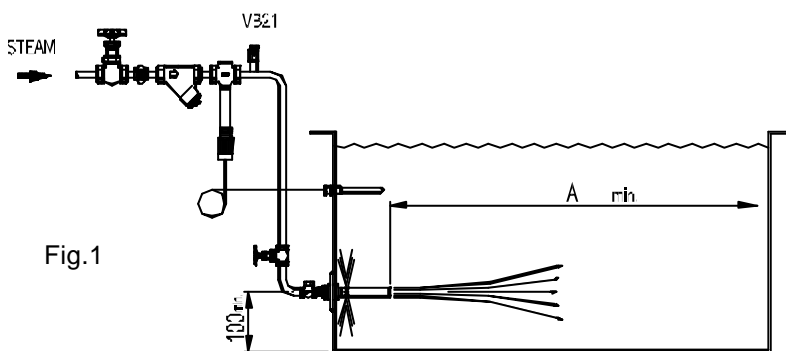
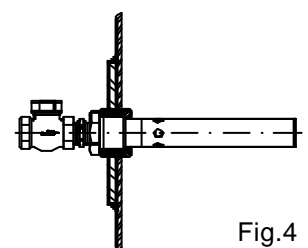

Fig.1
Fig.4
2. The SI steam injector should be fitted as low as possible in the tank and always below the level of the thermostat controller. A minimum depth of water must be allowed below the injector as shown on Fig.1 and 2.
3. The distance between the injector and the tank wall must be as great as possible. The dimensions mentioned on Fig.1 to 3 are the minimum recommended.
4. A stiffener plate should be welded to the tank wall to carry the bulkhead fitting (Fig.4). A vacuum breaker (VB21) must be fitted between the injector and the control valve. Where steam supply pipe is below the level of the liquid in the tank (Fig. 1), a non return valve is recommended between the injector and the control valve to prevent the contents of the tank flowing back through the valve and back up the steam supply pipe when the steam supply is turned off. A stop valve should also be fitted between the injector and the non return valve to enable maintenance work to be done on both the control valve and non return valve.